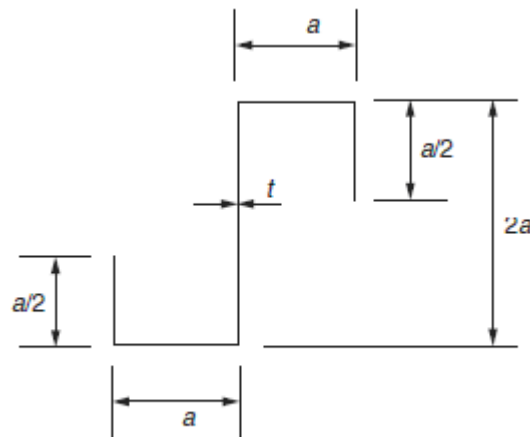

Figure 5:
1. A thin-walled cantilever beam of length  $L$  has the cross-section shown in Figure 5 and carries a load  $P$  positioned as shown at its free end. Determine the torsion bending constant for the beam section and derive an expression for the angle of twist  $\theta_T$  at the free end of the beam. Calculate the value of this angle for  $P=100$  N,  $a=30$  mm,  $L=1000$  mm,  $t=2.0$  mm,  $E=70\,000$  N/mm2 and  $G=25\,000$  N/mm2. [16]